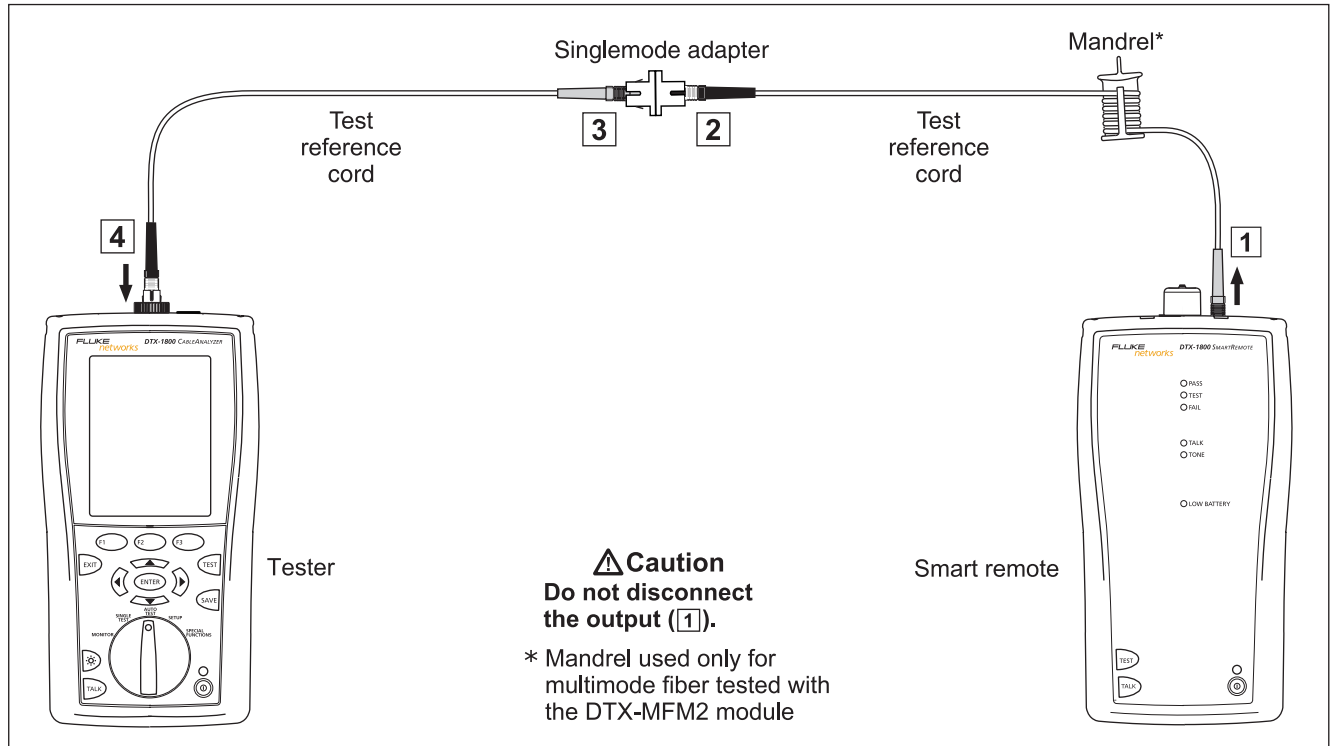

Figure 8-20. Testing the Test Reference Cords in Far End Source Mode
- 12 Make the connections shown in Figure 8-20.